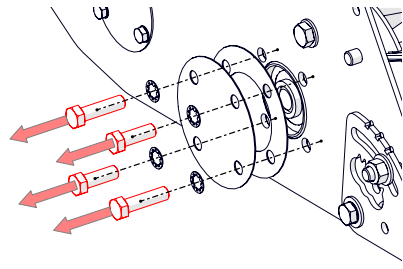
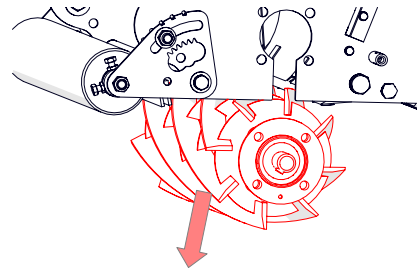

Fig. 15I - Remove cylinder securing bolts from RH side.
Fig. 15J - Remove cylinder from the machine.
10. Remove the 4 x M12 hex bolts (Fig. 15I) securing the cylinder on the right-hand side. Carefully lower the cylinder down and away from the machine (Fig. 15J)